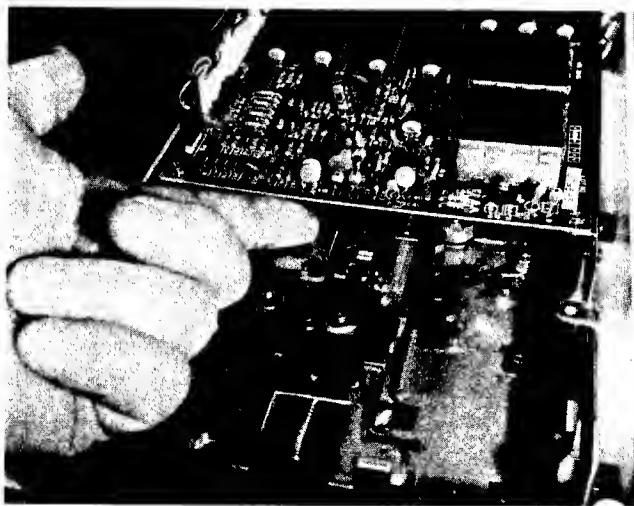

Fig. 5-14. Carefully lift the head load arm to expose the read-head below.
14. Carefully lift the black head load arm as shown in Fig. 5-14 and look for discoloration (build-up) on the surface of the pad or on the read/write head below.